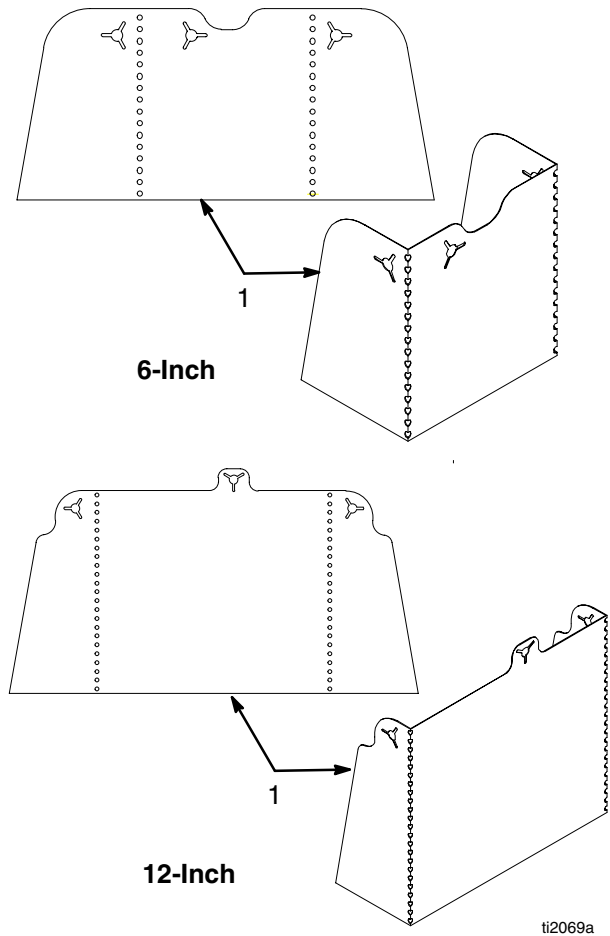

Fig. 3
4. Fig. 3. Fold wind deflectors (1) on dotted lines.